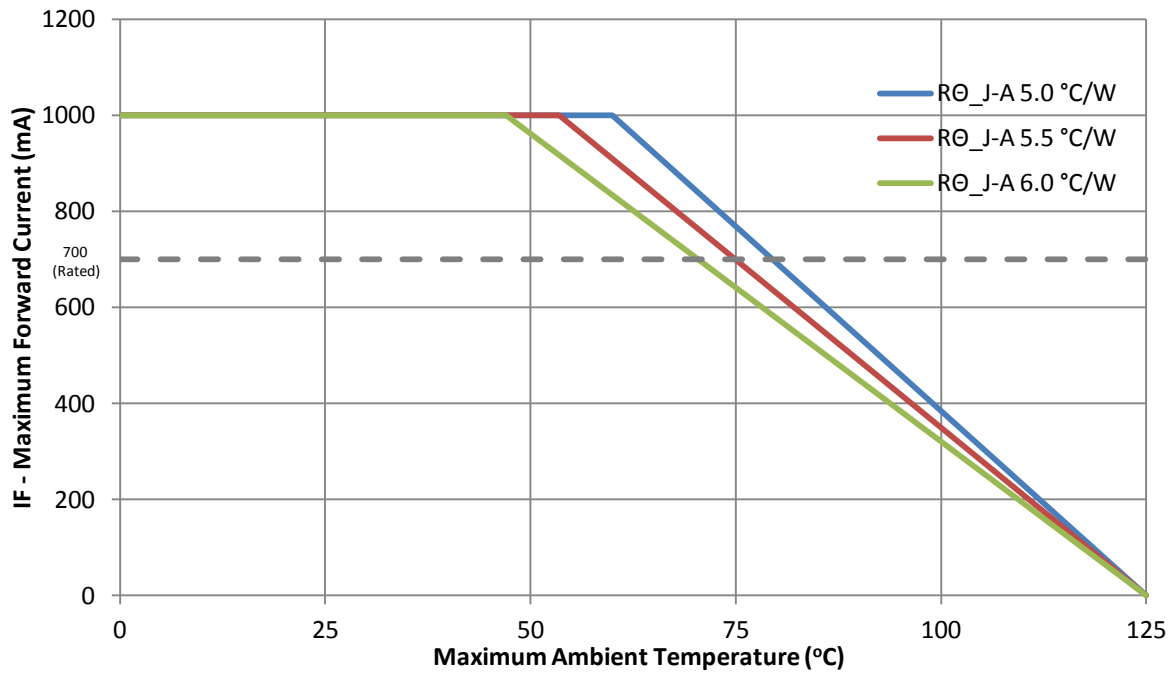

Figure 10: Maximum forward current vs. ambient temperature based on $T_{J(MAX)} = 150^{\circ}C$.
- Maximum DC forward current (per die) is determined by the overall thermal resistance and ambient temperature. Follow the curves in Figure 10 for current derating.
Notes for Figure 10: